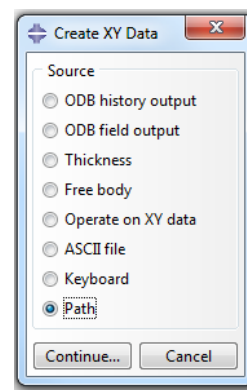

**Figure 51.** Path of Elements
- The **Edit Edge List Path** dialog box will immediately appear. Click **Add Before...** and the dialog box will disappear. At this click all of the elements on the beam starting from the left end. As each element is selected a red line will connect appear on that particular element. The model geometry should look identical to that in Figure 51.